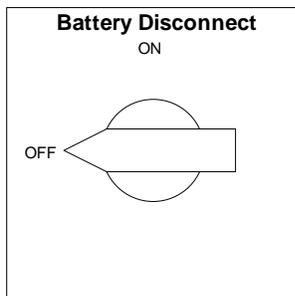
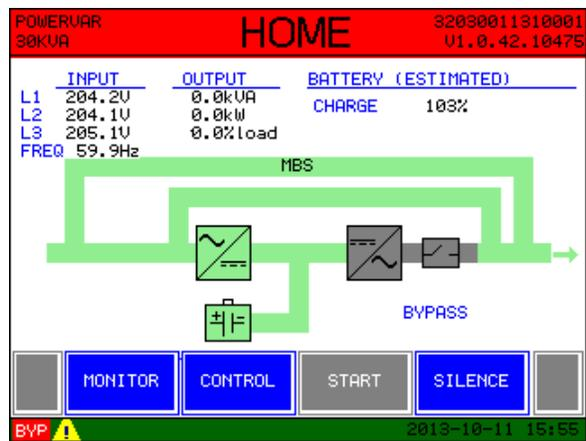

Fig. 4-37
Fig. 4-38
Step 6: When prompted, close the battery breaker (Fig. 4-37). The display will confirm this operation (Fig. 4-38).